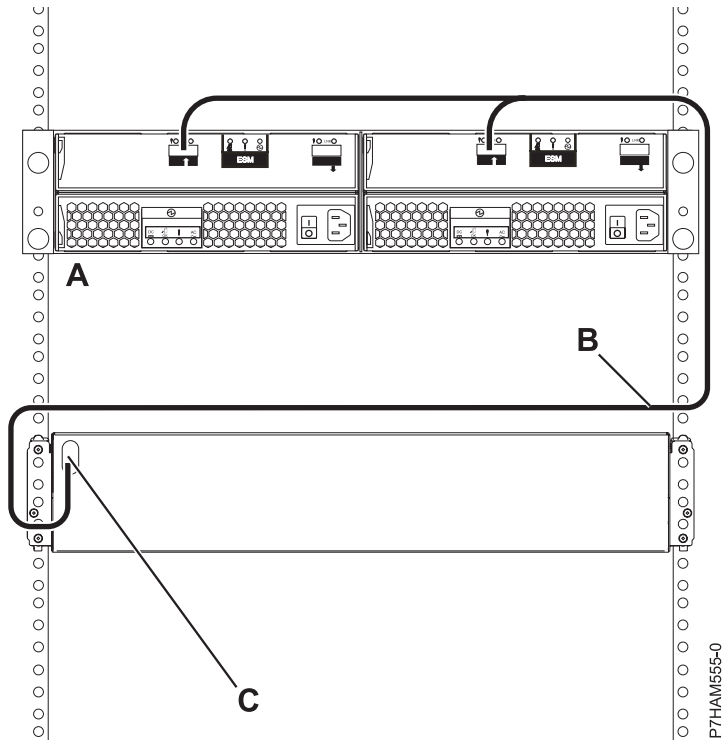

Figure 14. Connection of one 5886 disk drive enclosure by using a YI cable to a system with support for a single SAS drawer
- h. Perform the connection of one 5886 disk drive enclosure (A) by using a YI cable (B) to a system with support for a single SAS drawer (C) as shown in Figure 14 on page 14.